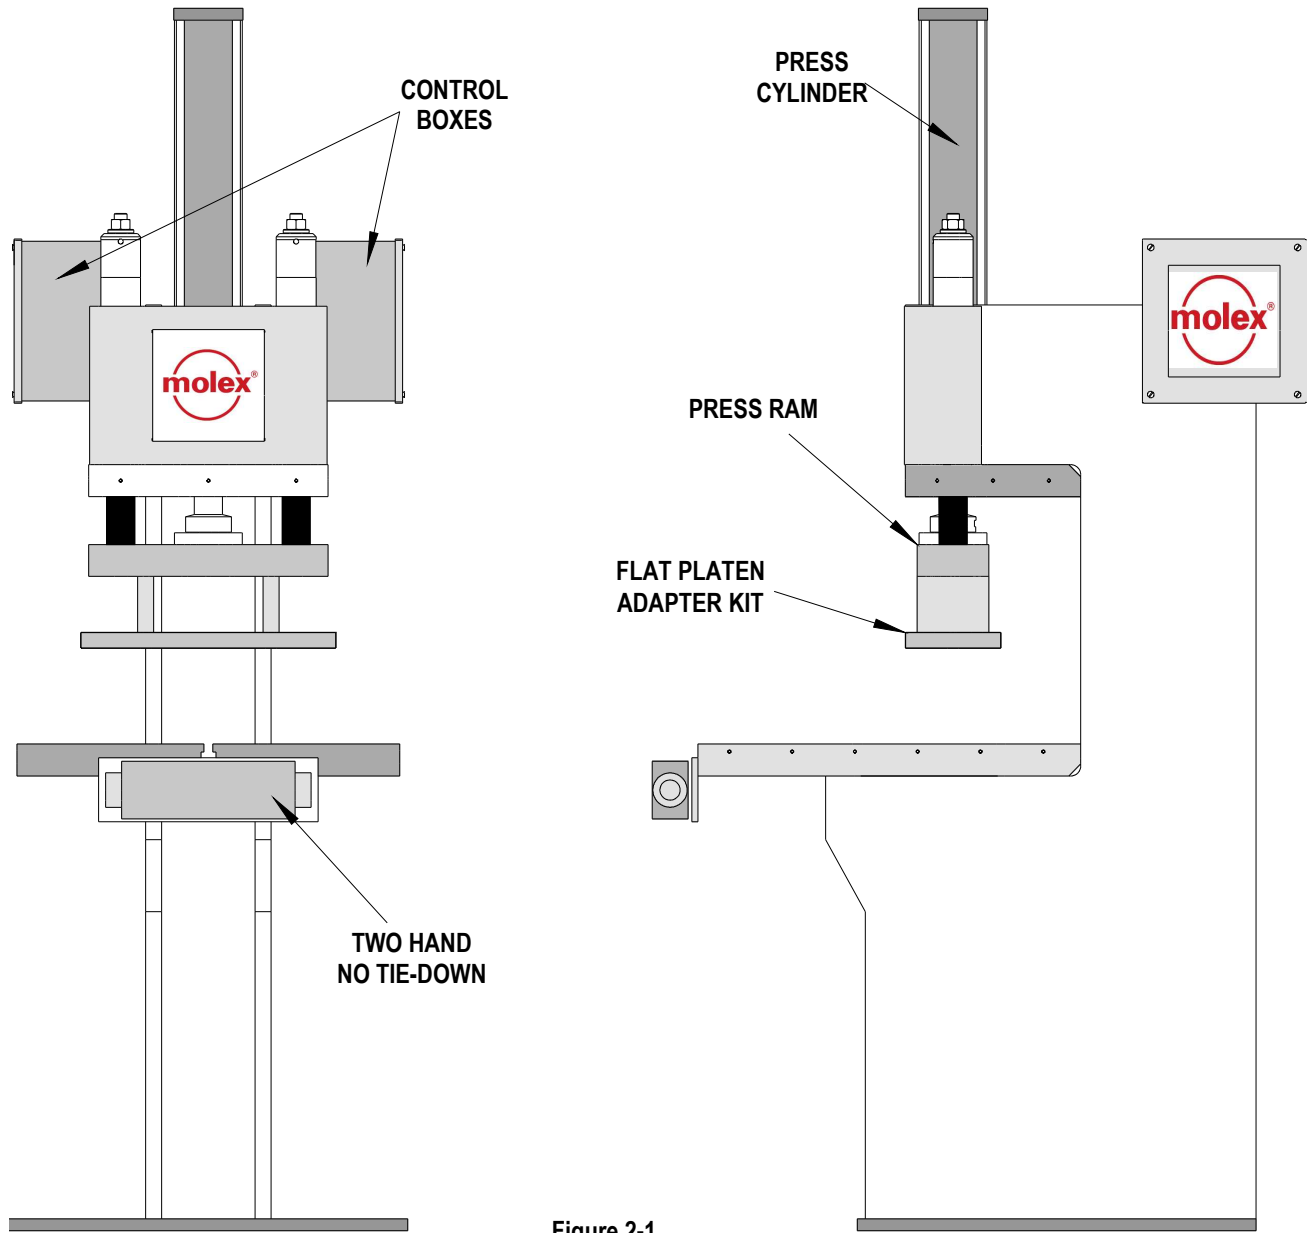

Figure 2-1
The 62201-3800 Manual Press comes with the tooling kit already installed. See Figure 2-1. If the 62201-3700 Tooling Kit is not installed in the Press, follow the steps below:
5. Cycle the press by pressing the rubber covered sensors with each hand on the ends of the two hand no tie down. See Figure 2-1.